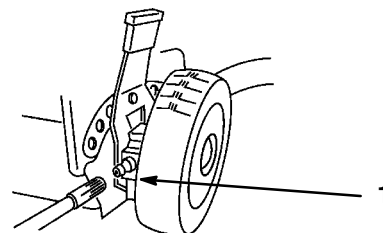

Figure 28
- Wipe the grease fittings on the rear wheel height adjustment levers (Fig. 28) with a clean rag.